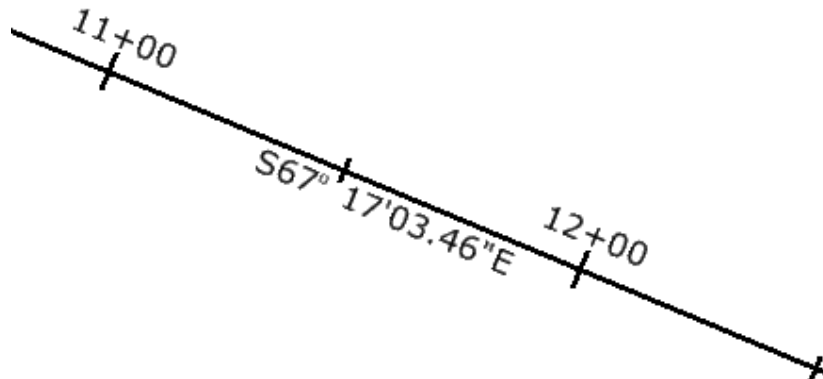

Figure 4-9 MicroStation View of InRoads Generated Bearings
- C. Click Apply to add the bearings and Click CLOSE. Figure 4-9 shows the InRoads generated bearing.